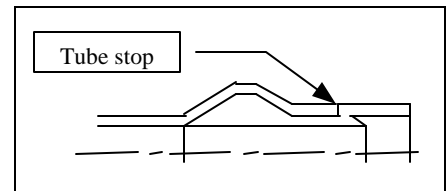

Figure 8. Completion of insertion
- Stop inserting the sleeve into the tube when the tube reaches the tube stop of the sleeve. (Figure 8)
- Insert the tube into which the sleeve has been press-fit, into the main unit and then tighten it until the boss on the union nut makes contact with the gauge ring and pulls the blade. Crunching sound should be heard (Figure 8).